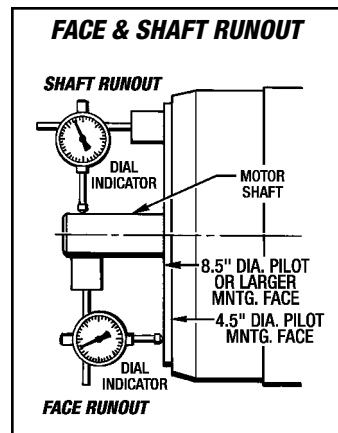

Figure 3.1 - Verifying Motor Specifications
The **Motor Manufacturer's Specifications** must be verified first to ensure the Motor Brake Oil Seal Reliability. (1) **Motor Shaft Runout** and (2) **Mounting Face Runout** need to be checked with a Dial Indicator as shown in Figure 3.1.